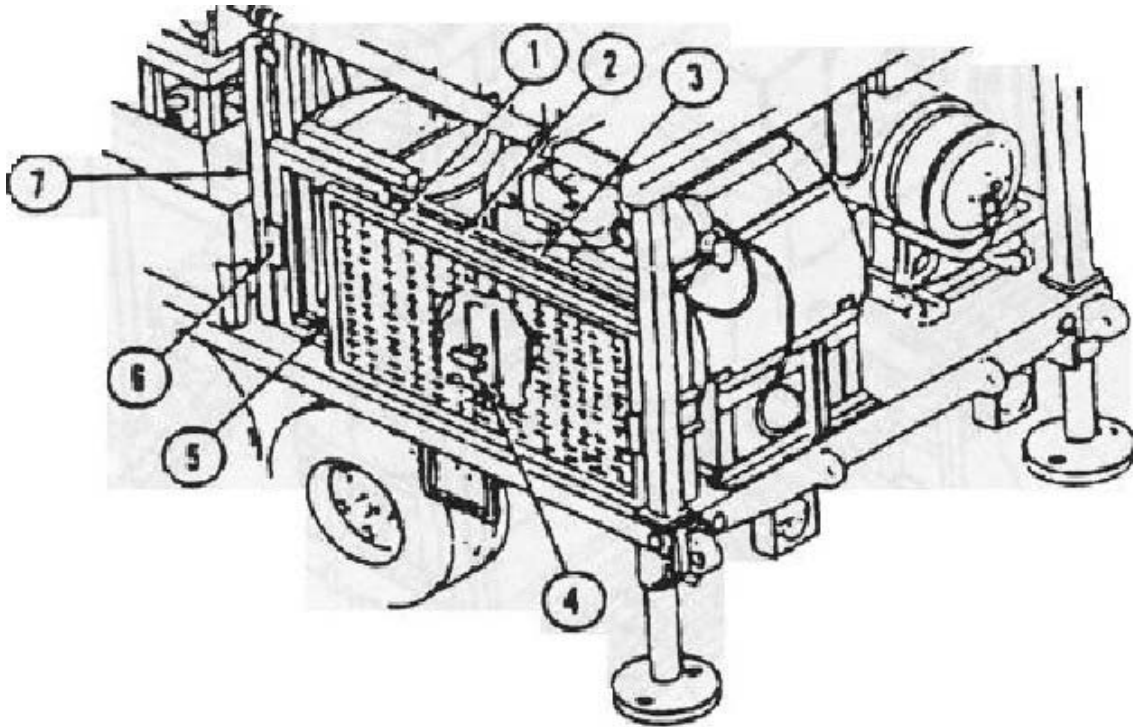

Figure 3-13
- a. Remove ball locking pin (6) from work stand storage support (7) and remove front work stand storage support by lifting up.
- b. Remove bracket (5) and store in toolbox, which is located under dryer (4). (See figure 3-13-Platform)